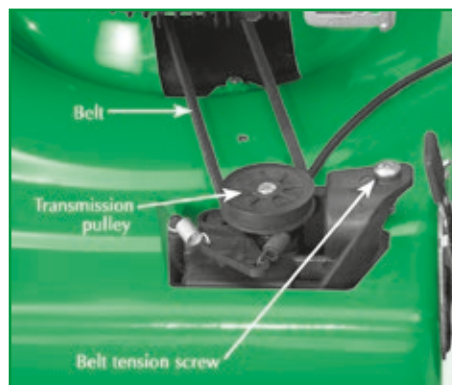

Figure 4
- ✓ Loosen the belt tension screw (Fig. 4).